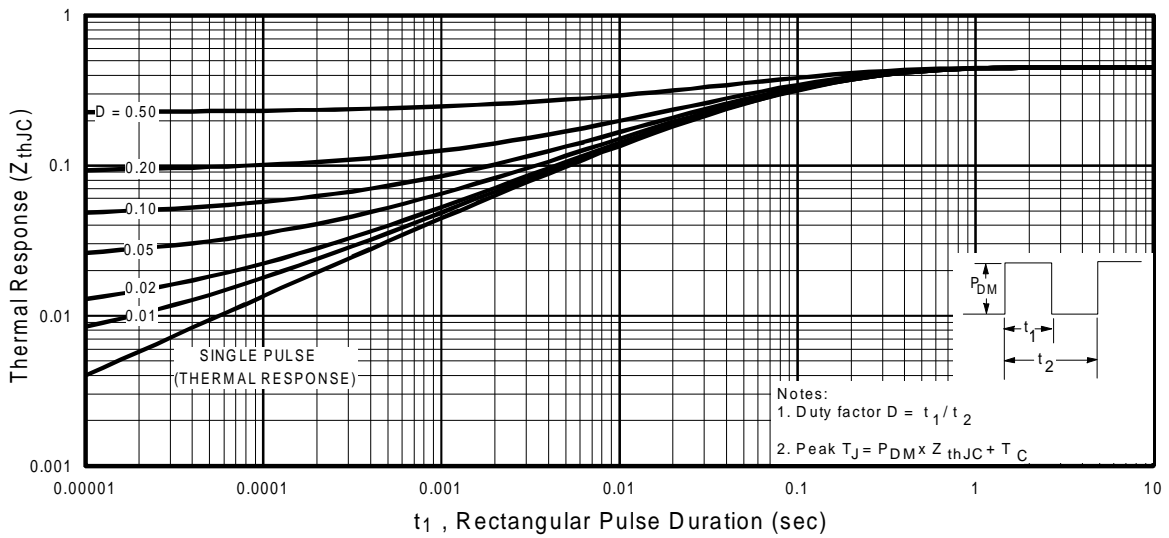

Fig 11. Maximum Effective Transient Thermal Impedance, Junction-to-Case
- ① Repetitive rating; pulse width limited by max. junction temperature. (See fig. 11)
- ② $V_{DD} = 25V$, starting $T_J = 25^\circ\text{C}$, $L = 4.0\text{mH}$